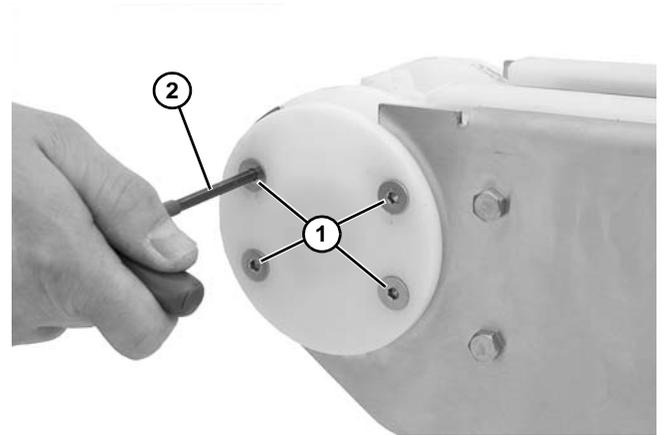

Figure 37
2. Remove four flat head screws (**Figure 37, item 1**) with an allen wrench (**Figure 37, item 2**).